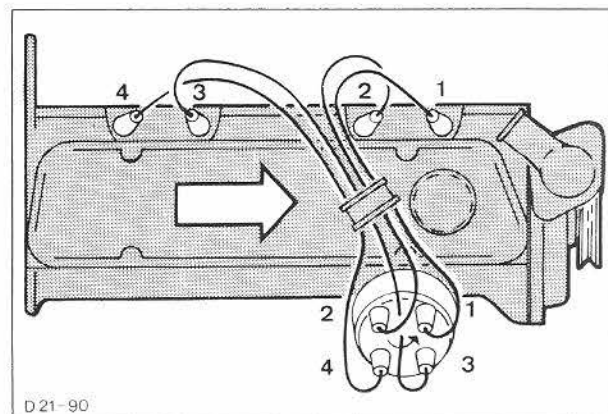

Fig. 63. Arrangement of HT leads (firing order).
71. Fit spark plugs and torque as specified in Technical Data. Refit distributor cap and connect HT leads to spark plugs, arranged as shown in Fig. 63. Connect vacuum line to carburettor.